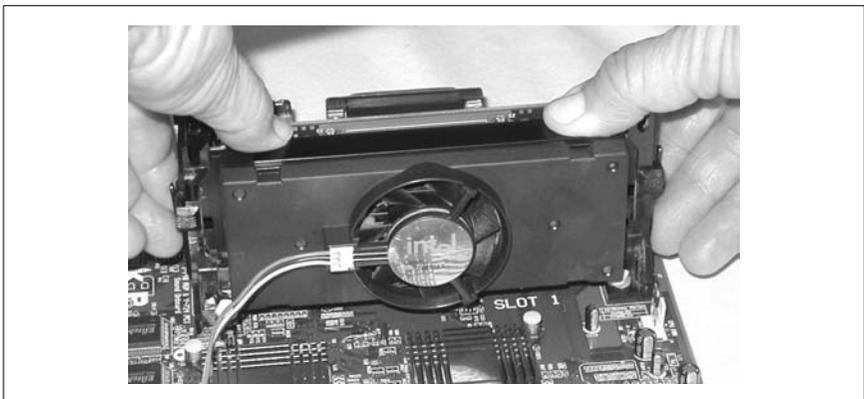

Figure 4-18. Using both thumbs to press firmly until the processor seats fully
8. Using both thumbs, press down firmly on the processor until it seats fully, as shown in Figure 4-18. This may require applying significant pressure, but you should feel and hear the processor seat. Most support brackets have locking tabs at the top that will snap into place to secure the processor once it is fully seated.